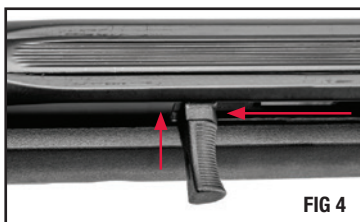

FIG 4
**Bolt Assembly** – The bolt remains in the open position after the last shot. The bolt may be kept in an open position even if the magazine is removed. To hold open the bolt with magazine removed, using the bolt cocking lever, pull the bolt to its most rearward position and push in towards the receiver (fig. 4).